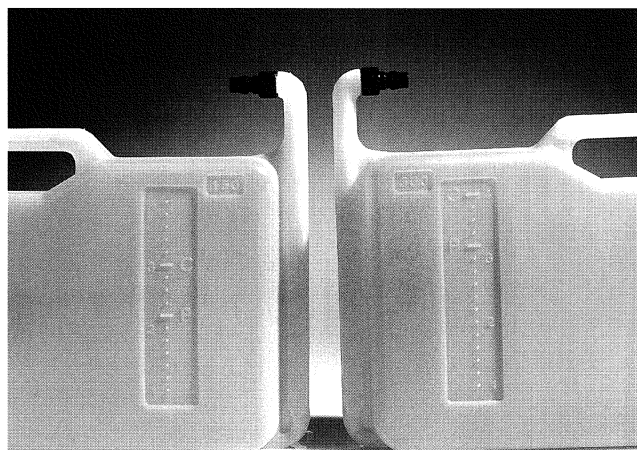

Figure 2-5
3. Examine one of the bottles for the line of graduation marks and letters molded into each side. The markings on the right side of the bottle are specific for the E300 models; those on the left side are for the E150 models (Figure 2-5). The “P” designates “Processing” volumes (2.2 L for the E150 models; 3.2 L for the E300 models); the “C” designates “Cleaning” volumes (3.0 L for the E150 models; 4.0 L for the E300 models).